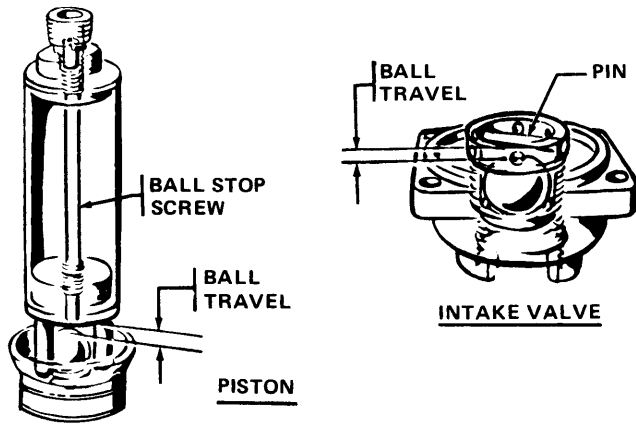

Fig 3
1. If extremely heavy paint is used and erratic pump operation develops, increase ball travel in intake valve by moving pin to center or upper set of holes (according to viscosity of paint) and in piston valve by backing out ball stop screw two (2) complete turns or 9/32 inch total travel. See Fig 3.
2. If extremely light paint is used and surging develops, reduce surging effect by screwing in ball stop screw two (2) complete turns or 3/32 inch total travel at piston valve. Refer to Fig 3.